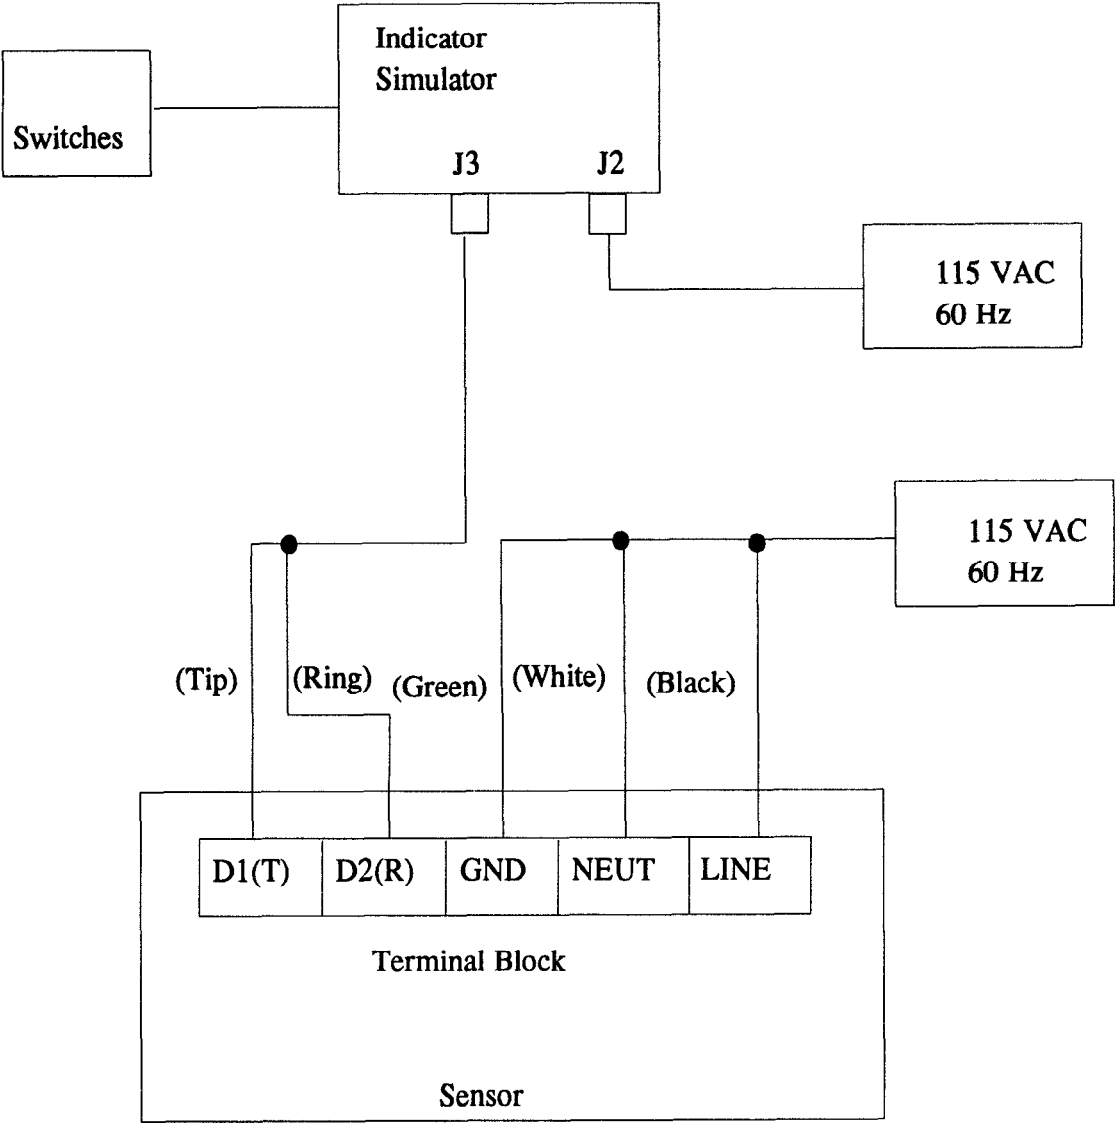

FIGURE 5-17. Test Setup for Sensor Test
- c. Configure the sensor to the test setup as shown in FIGURE 5-17.